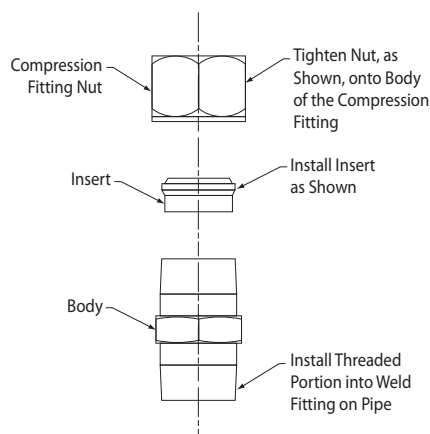

Figure 4: Compression fitting
6. Assemble the supplied compression fitting as diagrammed in Figure 4. Thread the assembled compression fitting into the weld-o-let manually. With a wrench, tighten the body of the fitting another 1-1/4 turns, taking care not to tighten the compression nut.